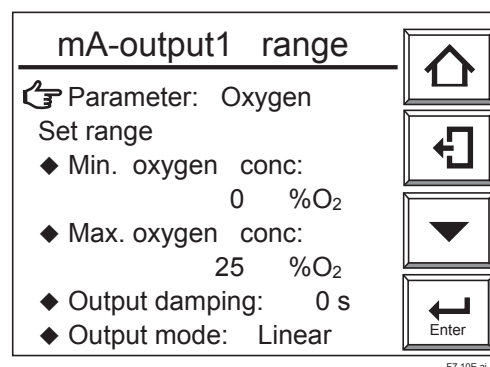

Figure 7.8 Setting "mA-output1 range"
- (3) Select "mA-output1" from the mA-outputs display. The "mA-output1 range" display shown in Figure 7.8 then appears.
- (4) In the display shown in Figure 7.8, select "Min. oxygen conc" and press the [Enter] key to display the numeric-data entry display. Enter the oxygen concentration at a 4-mA output; enter [010] for a ten-percent oxygen concentration measurement.
- (5) Also in Figure 7.8, select "Max. oxygen conc" at a 20-mA output. Enter the appropriate maximum oxygen concentration (at the 20-mA output) in the same manner as in step 4 above.
- (6) Set "mA-output2" in the same manner as in the appropriate steps above.